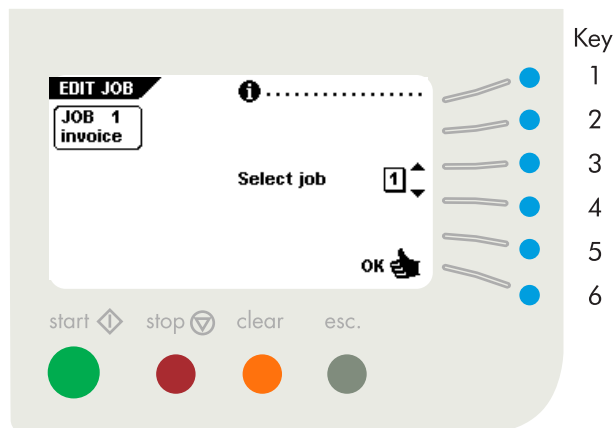
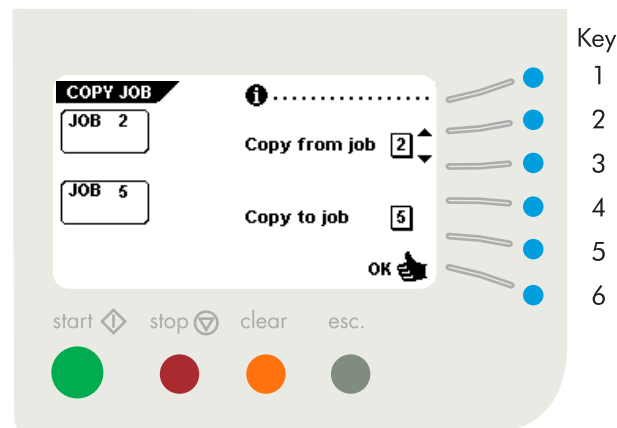

Fig. 32
Fig. 33
When key 3 in the "job menu" is pressed, the display shows the "edit job" menu as shown in fig. 32. The initially selected job will be displayed. The "edit job" menu shows the following functions:
- Job information (key 1).
- choose a higher job number to edit (key 3).
- choose a lower job number to edit (key 4).
- select the job to edit and confirm with "OK" (key 6) which will get you to the "job settings" menu. All job settings are described in 6. Job settings on page 17.
After pressing key 4 in the "job menu", the display shows the "copy job" menu as shown in fig. 33.